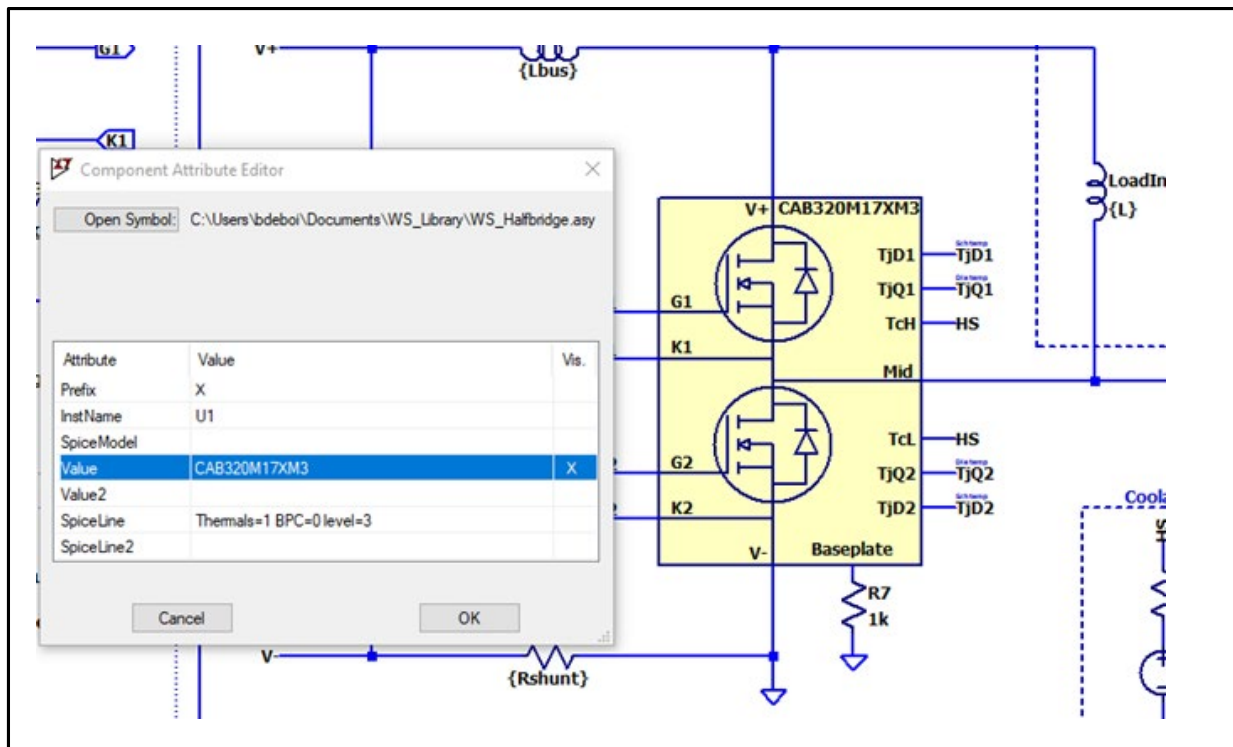

Figure 3: LTSpice changing library model example
- Once the part is placed in your simulation, right-click the symbol and change the Value field to your desired module part number (see Figure 3). Open the .lib file in a text editor to view the available models in the library.